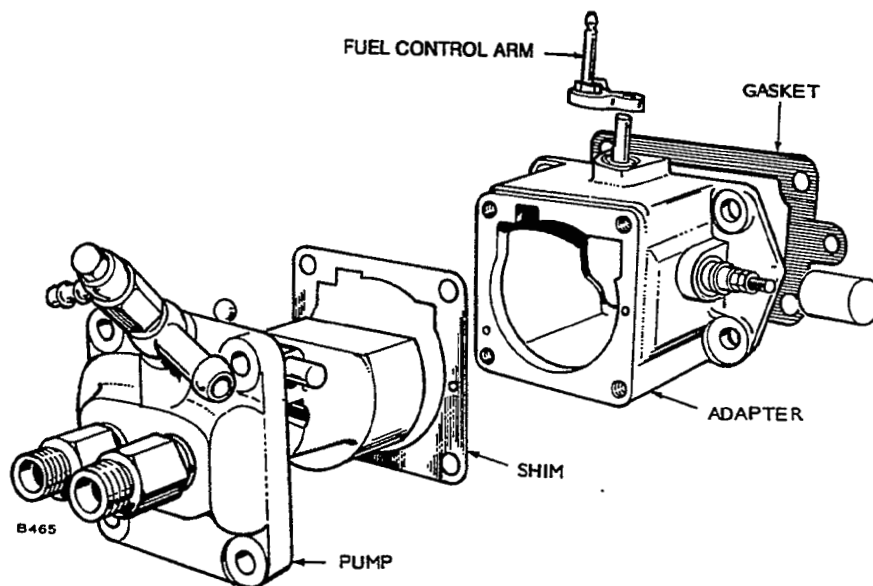

FIGURE 64. PUMP AND ADAPTER ASSEMBLY
2. Using proper shim thickness (Figure 64), install pump to adapter with four socket head capscrews and lockwashers. Torque to 20 to 24 ft.-lb. (27 to 33 Nm).
5. Reinstall fuel control arm on yoke and shaft assembly, Figure 64. Tighten socket head screw, but do not over tighten.